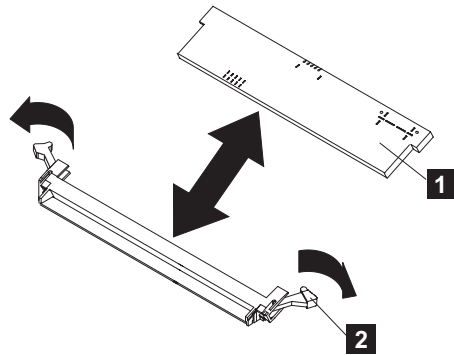

Figure 26. Installing the management card
3. Touch the static-protective package that contains the management card to any *unpainted* metal surface on the BladeCenter unit or any *unpainted* metal surface on any other grounded rack component; then, remove the management card (as shown by **1** in Figure 26) from its package.